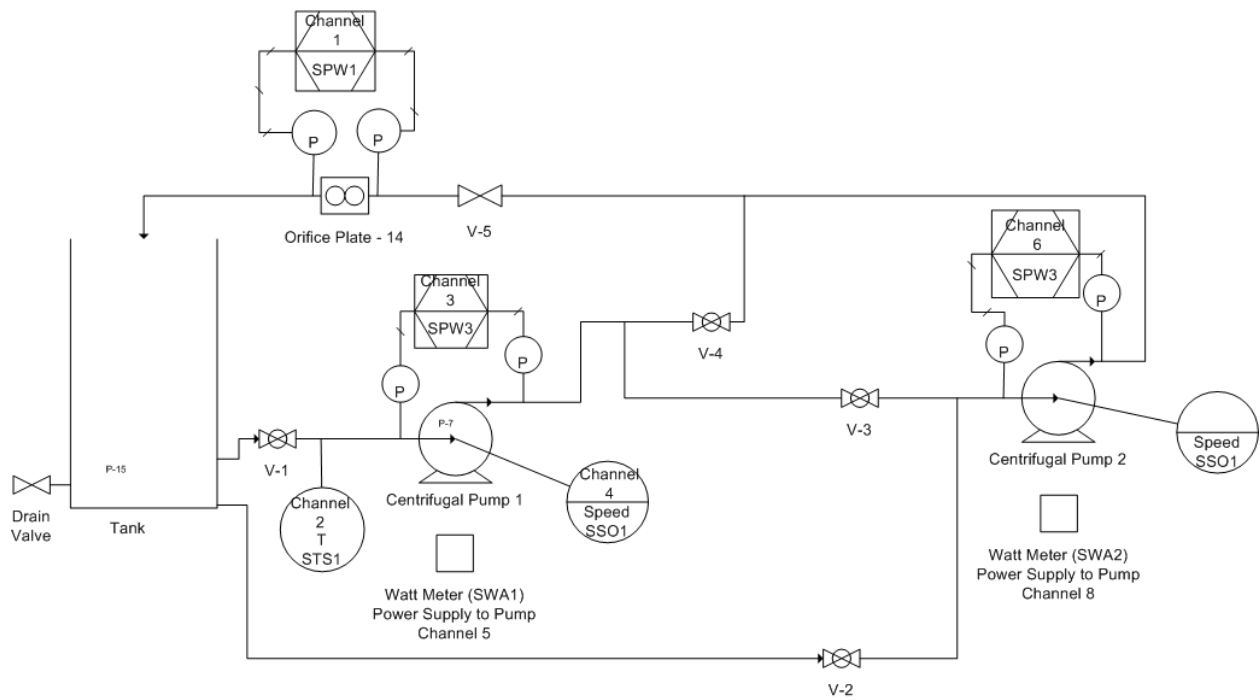

Figure 3: Process and Instrumentation Diagram (P&ID) for Armfield Centrifugal Pump Experiment FM21 Series Operation
1. Using the Series Pump setup shown in Figure 3, close the appropriate valves so that the fluid is only flowing through Pump 1.